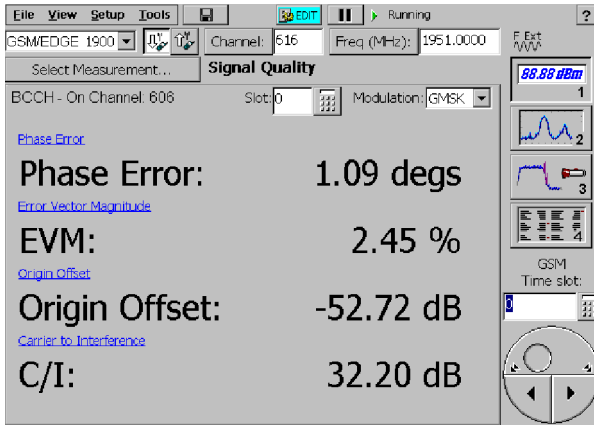

Figure 3-48: GSM/EDGE Signal Quality measurement
5. Tap **Signal Quality**. See Figure 3-48.